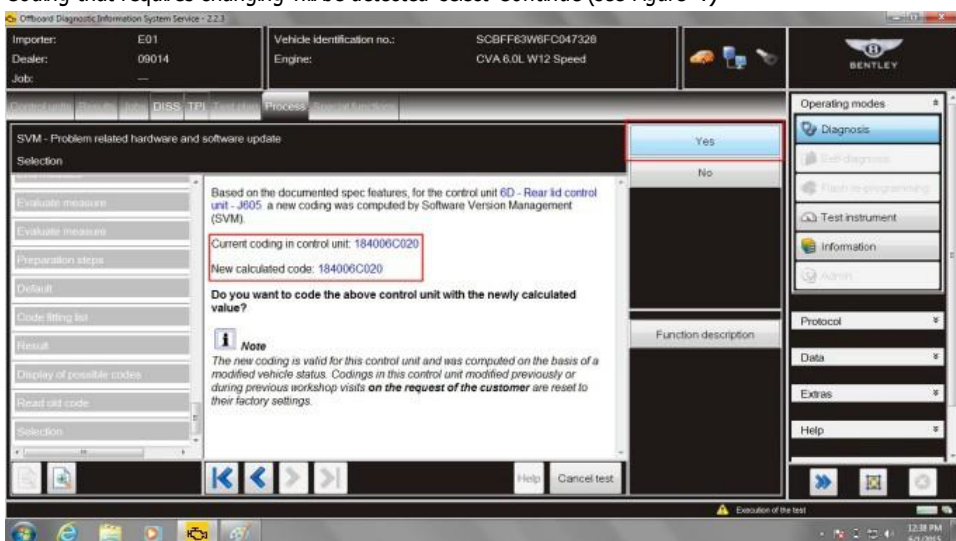

Figure 5
14. Like for like coding will be identified select Yes to progress through the procedure (see Figure 5)